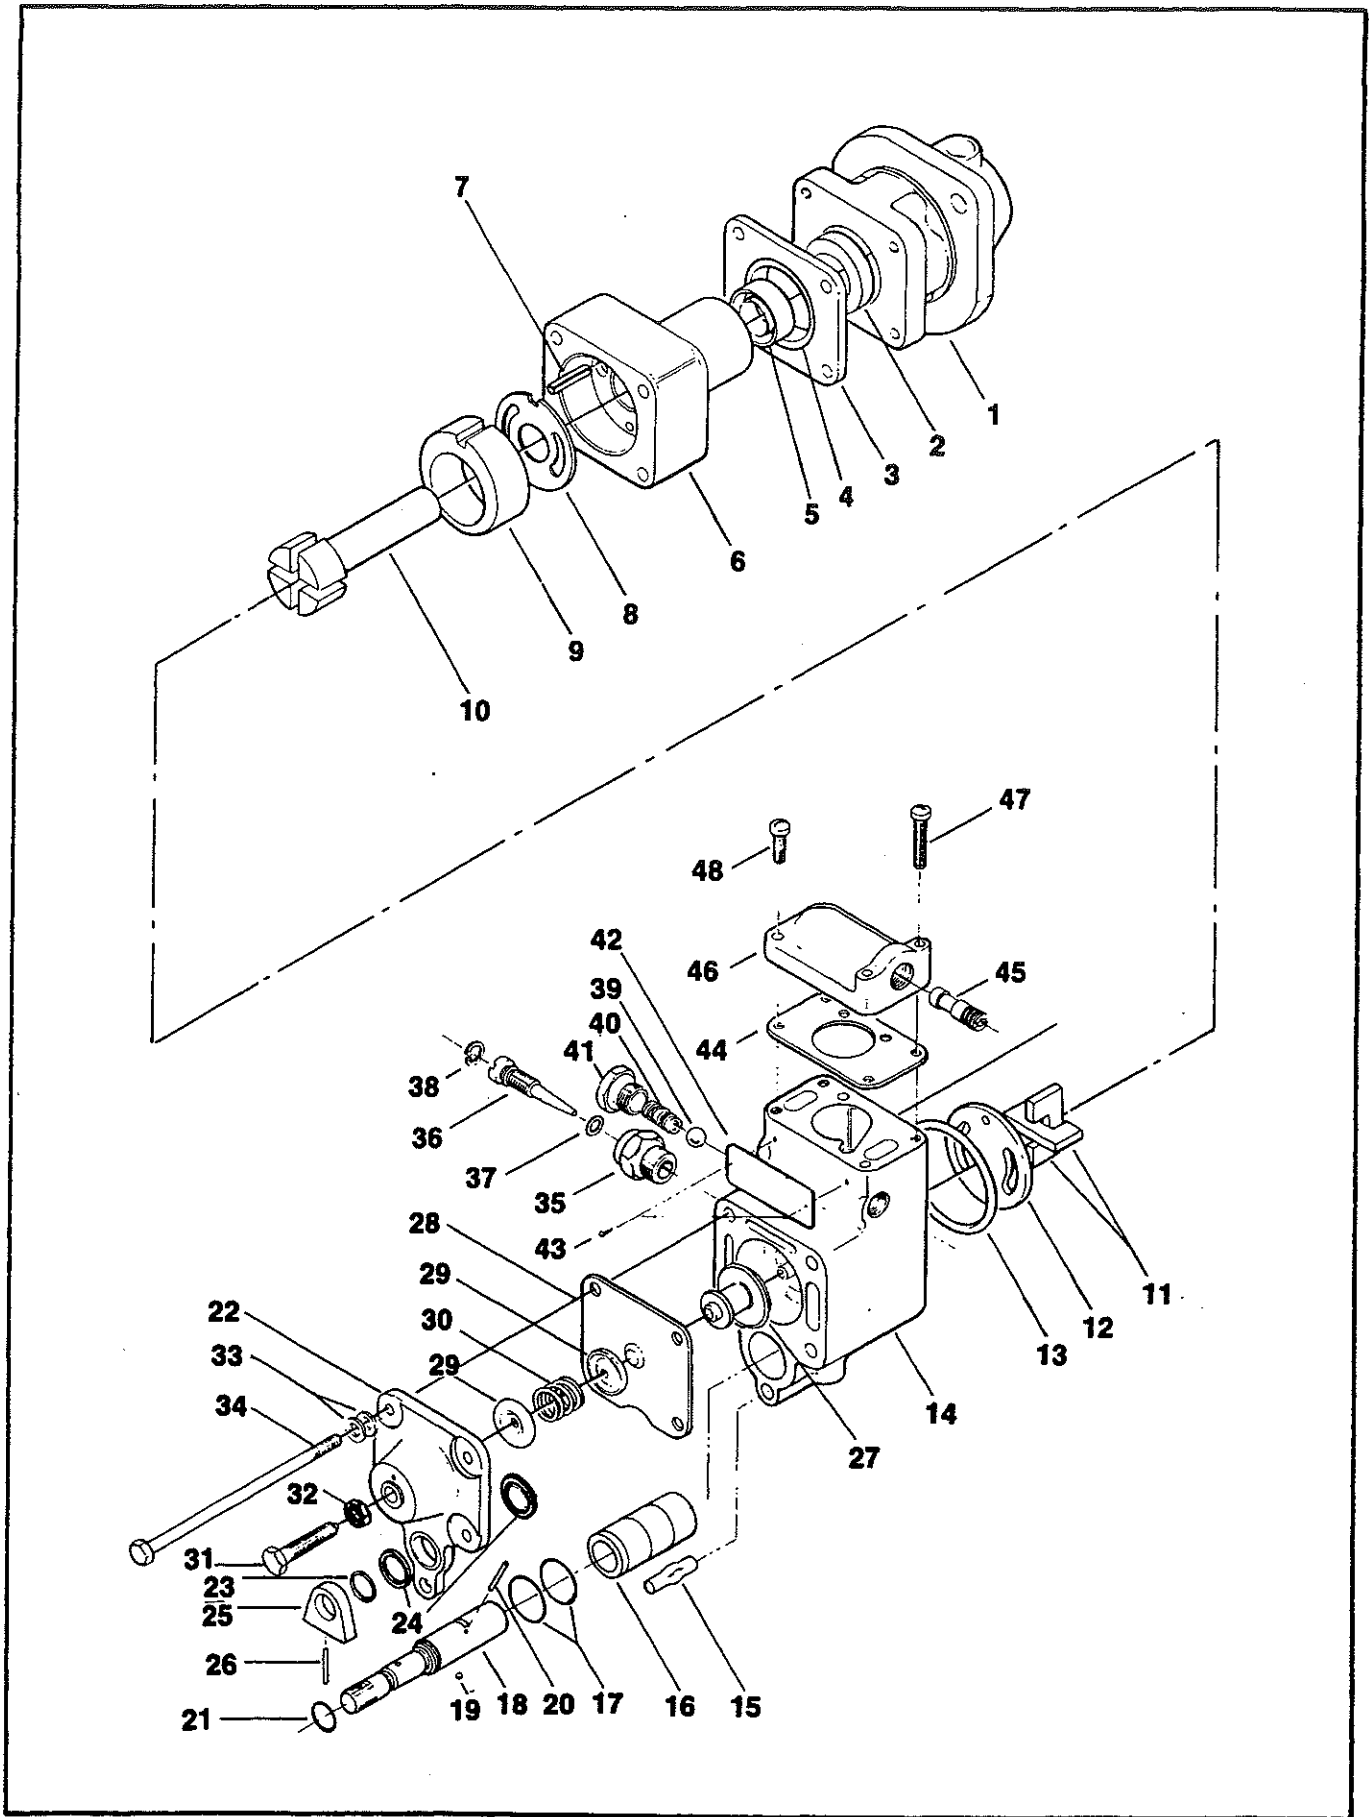

FIGURE 20-01. FUEL PUMP ASSEMBLY
A. Place pump in suitable fixture and remove all lockwire; and fittings if necessary. Refer to exploded view (Figure 20-01) and proceed as follows: Loosen screw (31) to relieve pressure on relief valve spring (30). Remove four bolts (34), washers (33) and separate parts (1 through 13) from vapor separator body (14).
B. Disassembly of the basic pump should be accomplished in the following manner: Remove the adapter (1) and insulator (3) from the basic pump. Remove seal (2) from adapter (1) and bushing (4) from insulator (3). Hold pump body (6) firmly in palm of hand, end plate (12) down, and apply pressure to drive end of shaft (10) forcing end plate (12), end plate seal (13), blades (11) and shaft (10) from pump body. Remove seal (5) and discard. It is important to note the liner position relative to the rotation marking found on the top surface of the liner. It must be installed with the proper marking (C or CC) in the up position.
A. Reassemble basic pump (5 through 13) in reverse order of disassembly. Refer to Figure 20-01 and install new seal (5) in body (6). Install pin (7), plate (8) and liner (9) in body (6). Be sure liner is installed with proper rotation lettering visible. Use light machine oil to lubricate shaft (10) and install in pump. Install blades (11) in position and lubricate lightly. Install plate (12) and seal (13) to complete basic pump assembly. Install seal (2) in adapter (1). Install bushing (4) and insulator (3) on pump assembly and insert into adapter assembly.